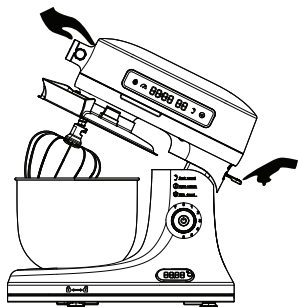

Figure 3
- 2 - Raise the head, place the bowl onto the base and turn it clockwise to secure (refer to the installation instructions for specific operation in Figure 3)
- 3- Insert the whisk into the accessory port (refer to the installation instructions for specific operation in Figure 3)
- 8-Press the head release button as shown in Figure 3 and raise the head.